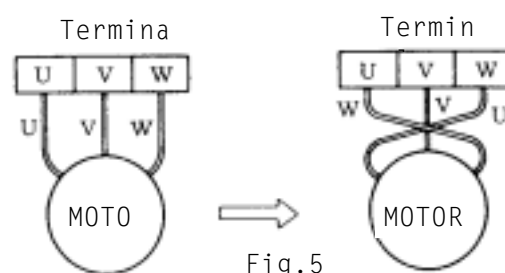

Fig.5
2) Check the direction of rotation. If discharge volume is low or unusual sounds are heard when the pump is operating, rotation has been reversed. When this happens, reverse two of three wires (see Fig.5).